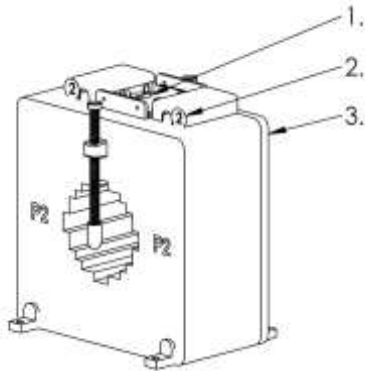

Figure 4: The gripping points
1. Grasp the cover with fingers of your left or right hand, touching the gripping points shown in figures 4 and 6. What finger is to be used is shown in the following table.